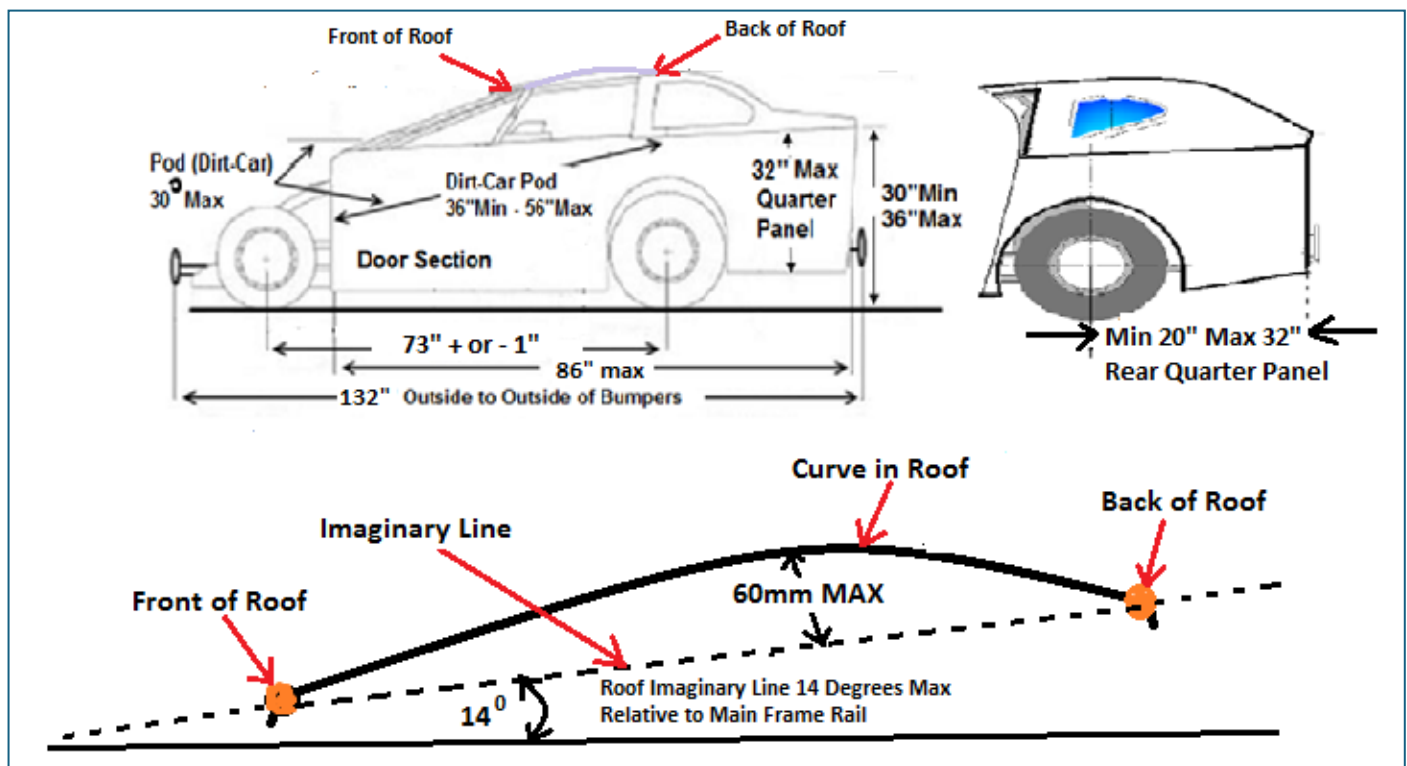

Figure 3
- 6.9** Wheelbase 73 inches +or- 1 inch. This means the wheelbase must not exceed 74 inches or be less than 72 inches (NO TOLERANCE). The wheelbase is the straight-line distance (parallel to the chassis rail) between the centres of the front and rear hubs with the front and rear tyres aligned parallel with each other on the side being measured. *(Figure 3 & 4).*
Front of door section to the rear most point of the quarter panel must not exceed 86 inches *(Figure 3).*
Side height of the top of rear quarter panel (deck lid) to the ground --- 30 inches min, 36 inches max (No tolerance) *(Figure 3).*
Max height of quarter panel 32 inches (No tolerance) *(Figure 3).*
Rear quarter length from centre of rear hub to rear of quarter panel must not exceed 20 inches min to 32 inches max (No tolerance) *(Figure 3).*
- 9.2 The top face of the roof panel must be transversely (across) flat in design. An imaginary line linking the front edge and rear edge of the roof panel must not exceed 14 degrees angle of rake relative to the frame rail (*Figure 3*). A longitudinally convex shaped roof is allowed with the curvature not to exceed a 60mm perpendicular distance from any point on the curve to the imaginary line linking the front edge and rear edge of the roof panel (*Figure 3*). No roof panel is to be concave in design. No upward facing deflectors of any type on upper side of the roof panel including front and rear edges.